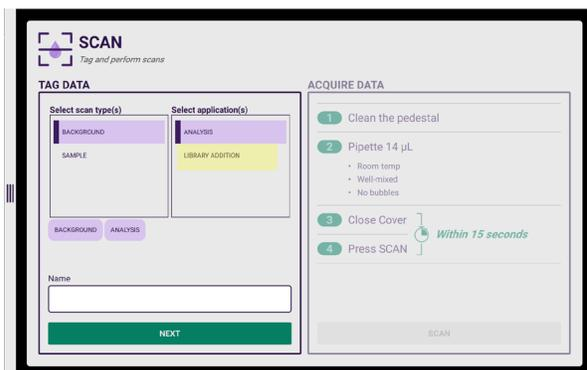

Figure 16. Tag background and sample scans with 'Library Addition' (yellow)
1. When scanning a sample or a background for library addition, ensure that you tag both the background and sample as a library addition (Fig. 16).